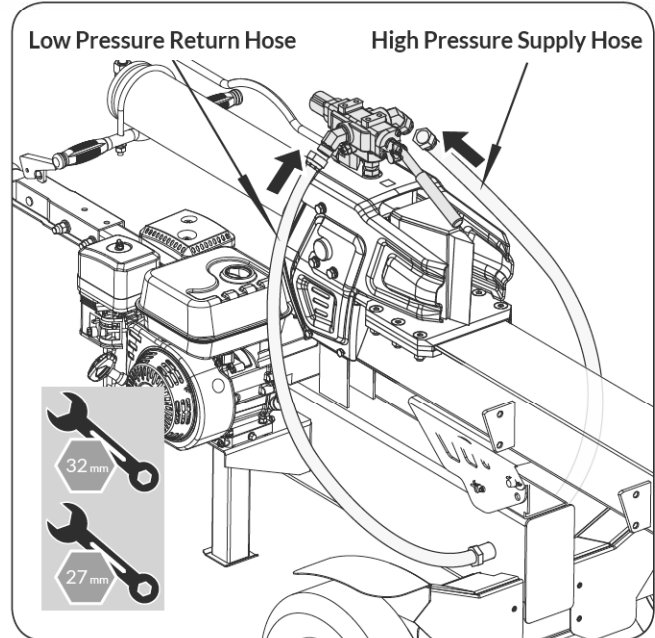

Figure 12
1. Assemble the High Pressure Supply Hose and Low Pressure Return Hose onto the control valve. (See **Figure 12**)